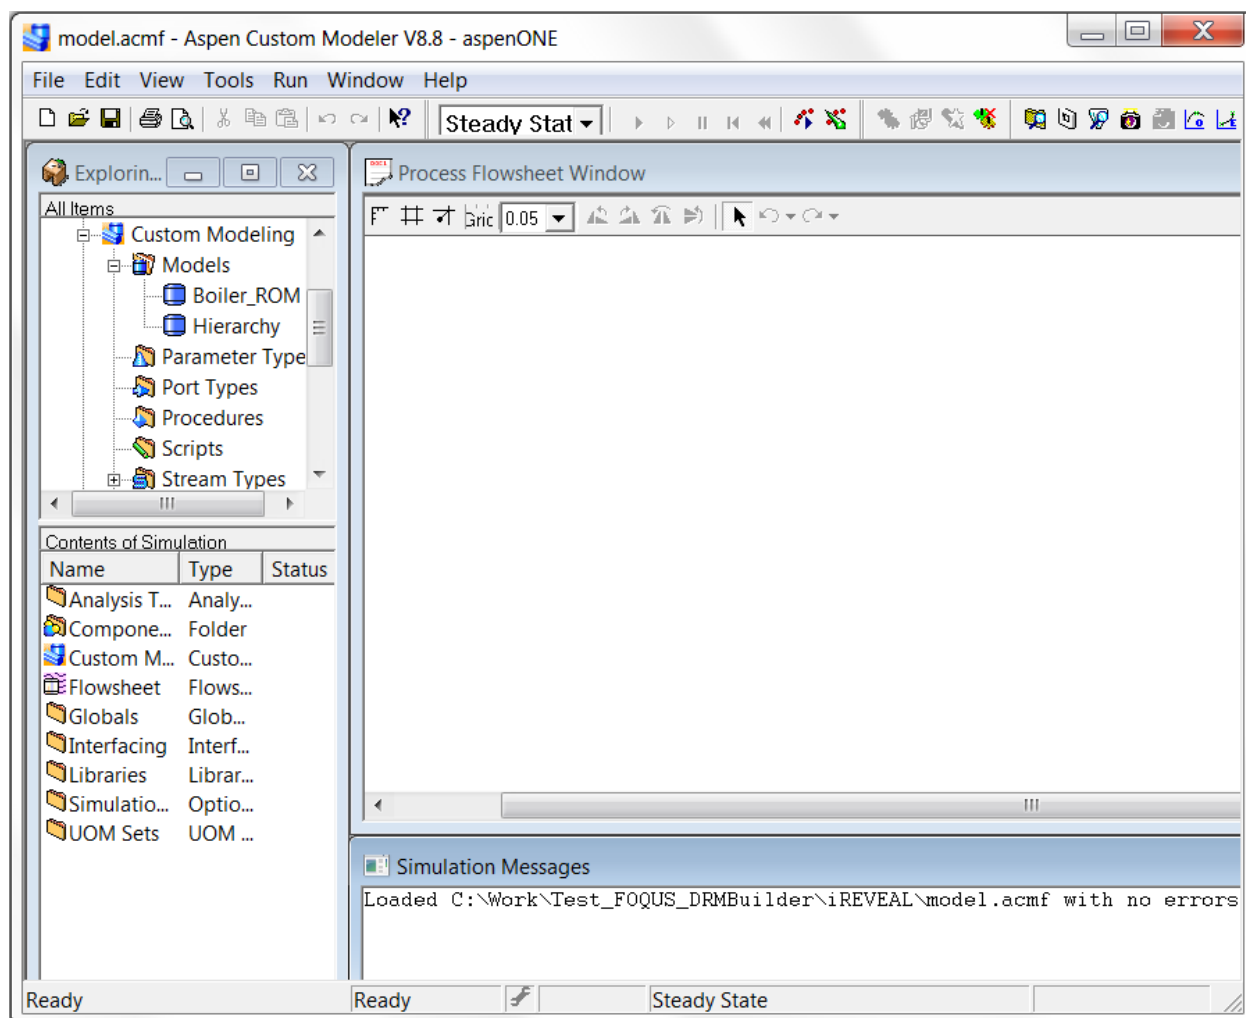

Figure 17: ROM Model Displayed in ACM Window
2. Open the “model.acmf” file by double-clicking the file. The ACM window displays. Expand the “Custom Modeling” branch in the “Exploring – Simu...” window inside the main ACM window. Then expand the “Models” branch. The “Boiler_ROM” item is listed as shown in Figure 17. View the ACM source code by right-clicking the “Boiler_ROM” item and then selecting the “Edit” pop-up menu.